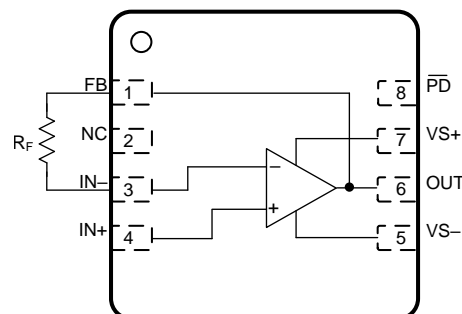

Figure 49. R_F Connection Between FB and $IN-$ Pins
1. A feedback resistor (R_F) can connect between the FB and $IN-$ pin on the same side of the package (see Figure 49) rather than going around the package.